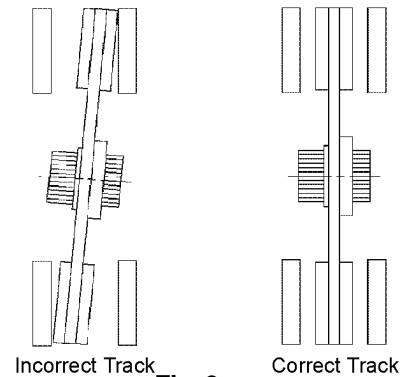

Fig. 3
Proper alignment is necessary to assure the friction discs track properly. Improper alignment will result in excessive wear to the friction material and its mating surfaces, gear and ring gear (37). See Figure 3.